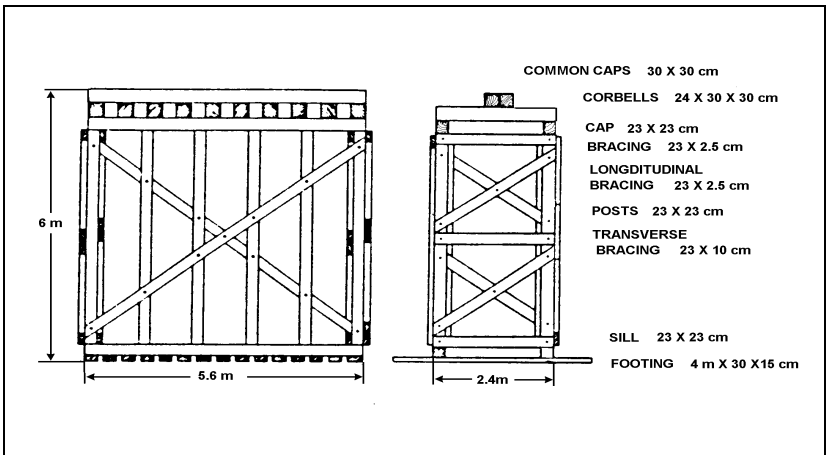

Fig 14-2-6 Example Double Bent Pier
9. **Lashed Trestles.** Where only round timber and lashings are available, a bridge for light loads can be made with trestles similar to that in Fig 14-2-6, to which roadbearers are lashed. Points to remember in constructing lashed trestles are: